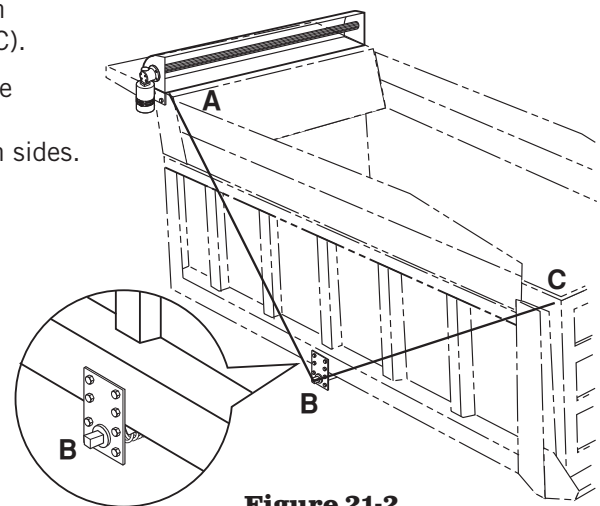

Figure 21-2
NOTE: Figure 21-2. Notice that the spring assembly (B) is one point of a triangle. The other two points (A & C) are on top of the truck. The two downward-pointing legs of the triangle must be the same length. These steps will make sure that the two legs are equal.
- 1) Mark the rear edge of the tarp housing or the mounting plate in line with the tarp roll up bar on the driver's side and passenger's side. Mark these points and call them (A).
- 2) Determine where you want the rear of the tarp to be when it fully covers the box. Mark these points and call them (C).
- 3) **Figure 21-2.** Find a point at the side of the box that is the same distance from A and C. This is point B, where the spring assembly will be mounted. Mark this point on both sides.